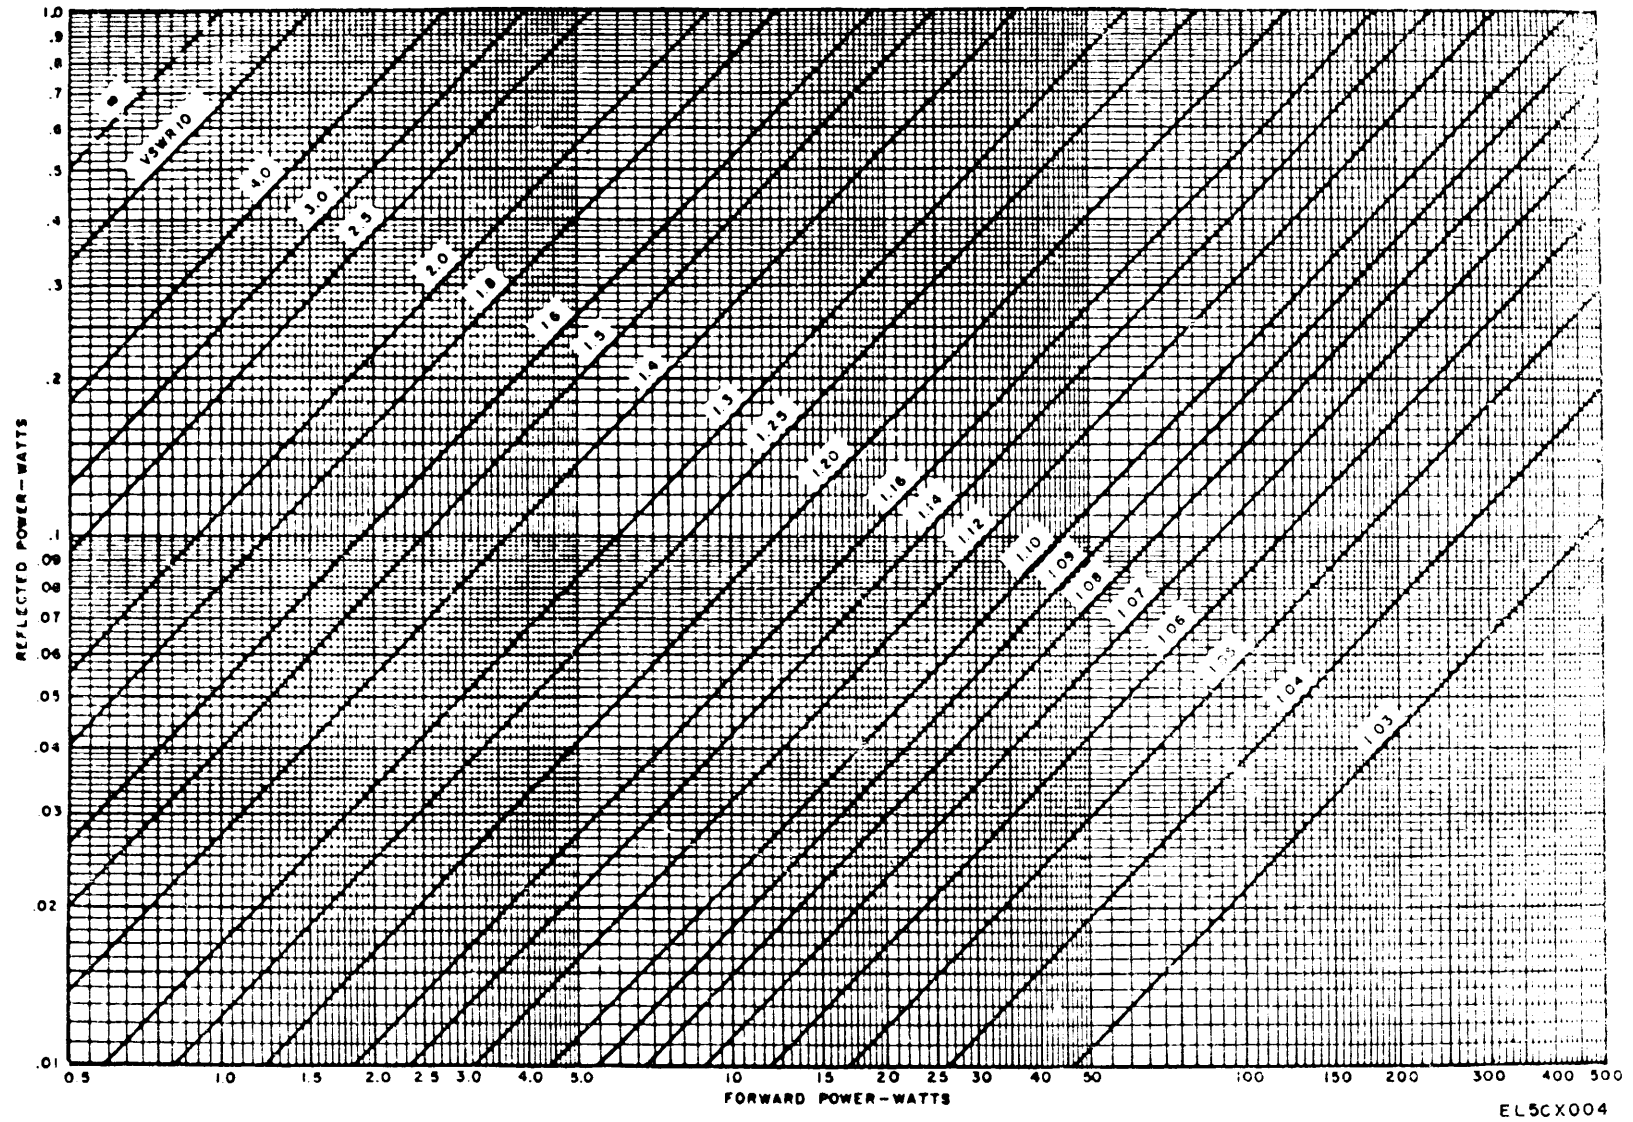

Figure 3-2. Power values versus VSWR (reflected power 0.01 to 1.0 watts).
a. The TS-3754/U is designed to provide forward and reflected power readings in watts. To convert these power reading to a voltage standing wave ratio (VSWR) reading, use the graphs provided in figures 3-2 and 3-3.
c. Refer to the appropriate graph (fig. 3-2 or 3-3) to convert these readings to VSWR. The graphs convert directly to VSWR values.
Example: The forward power reading is 35 watts (horizontal reading on figure 3-2). Reflected (reverse) power reading is 0.08 watt (vertical reading). Bisecting the two readings at the VSWR diagonal line indicates VSWR of 1.10.